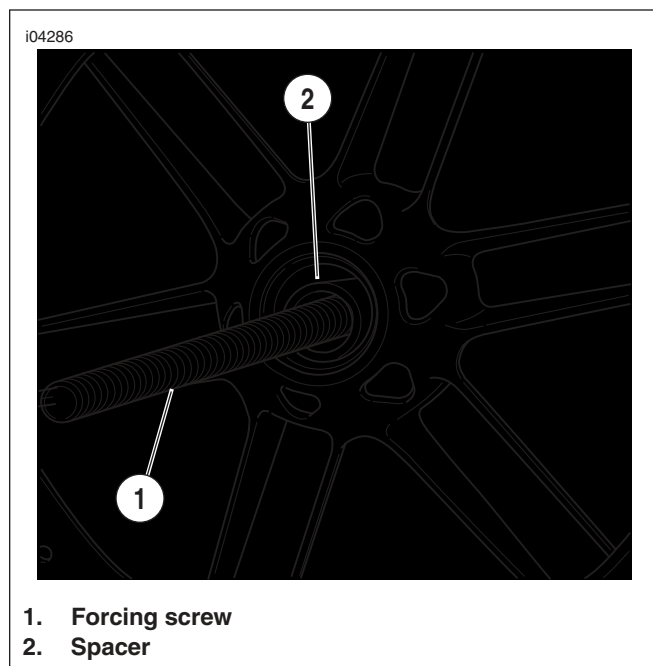

Figure 2-16. Install the Spacer
10. See Figure 2-16. Install the spacer.
See Figure 2-16. Center the spacer while installing the wheel bearing. Failure to center the spacer could cause the bearing not to pull in straight.